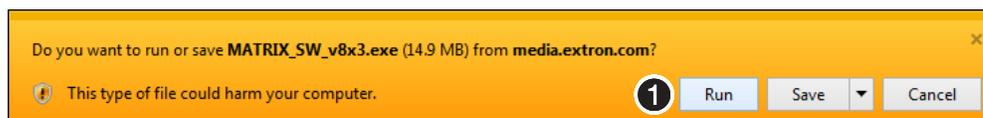

Figure 34. Download Warning and Confirmation
- Click **Sign up** (see ② on the previous page) to obtain website credentials.
- Click **Keep me logged in** (③) to eliminate steps 5 and 6 in future downloads.
- Enter your registered email address and click **Retrieve Password** (④) if you have forgotten your credentials.
6. Click **Log in** to copy the software to the computer (⑤).
7. If your browser asks you to confirm that you want to continue, click **Run** or make a similar confirmation that you want to run the installation (see figure 34, ①).
NOTE: Figure 34 may appear different or may not appear at all, depending on your Web browser choice and its security settings.
The Comm Port Selection dialog box (see figure 34) opens.